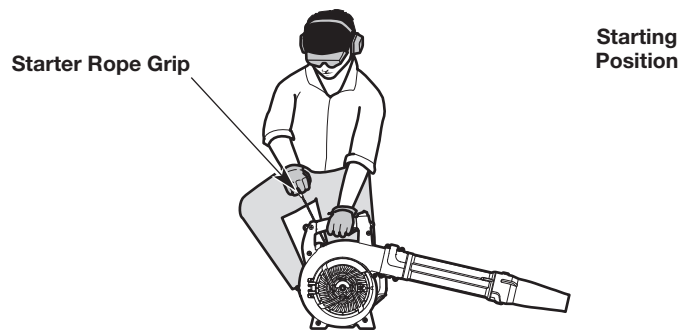

Fig. 13
**WARNING:** Avoid accidentally starting the unit. To avoid serious injury, the operator and the unit must be in a stable position when pulling the starter rope (Fig. 13).
4. Crouch in the starting position (Fig. 13).